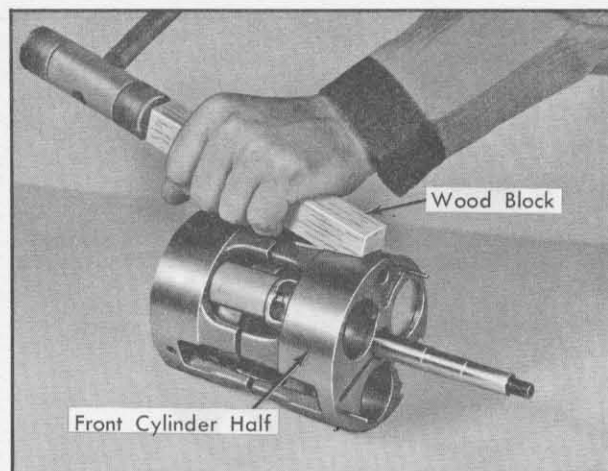

Fig. 1-79 Separating Cylinder Halves
3. Separate cylinder halves, using a wood block and mallet, Fig. 1-79. Make certain that discharge cross-over tube does not contact axial plate when separating cylinder halves.